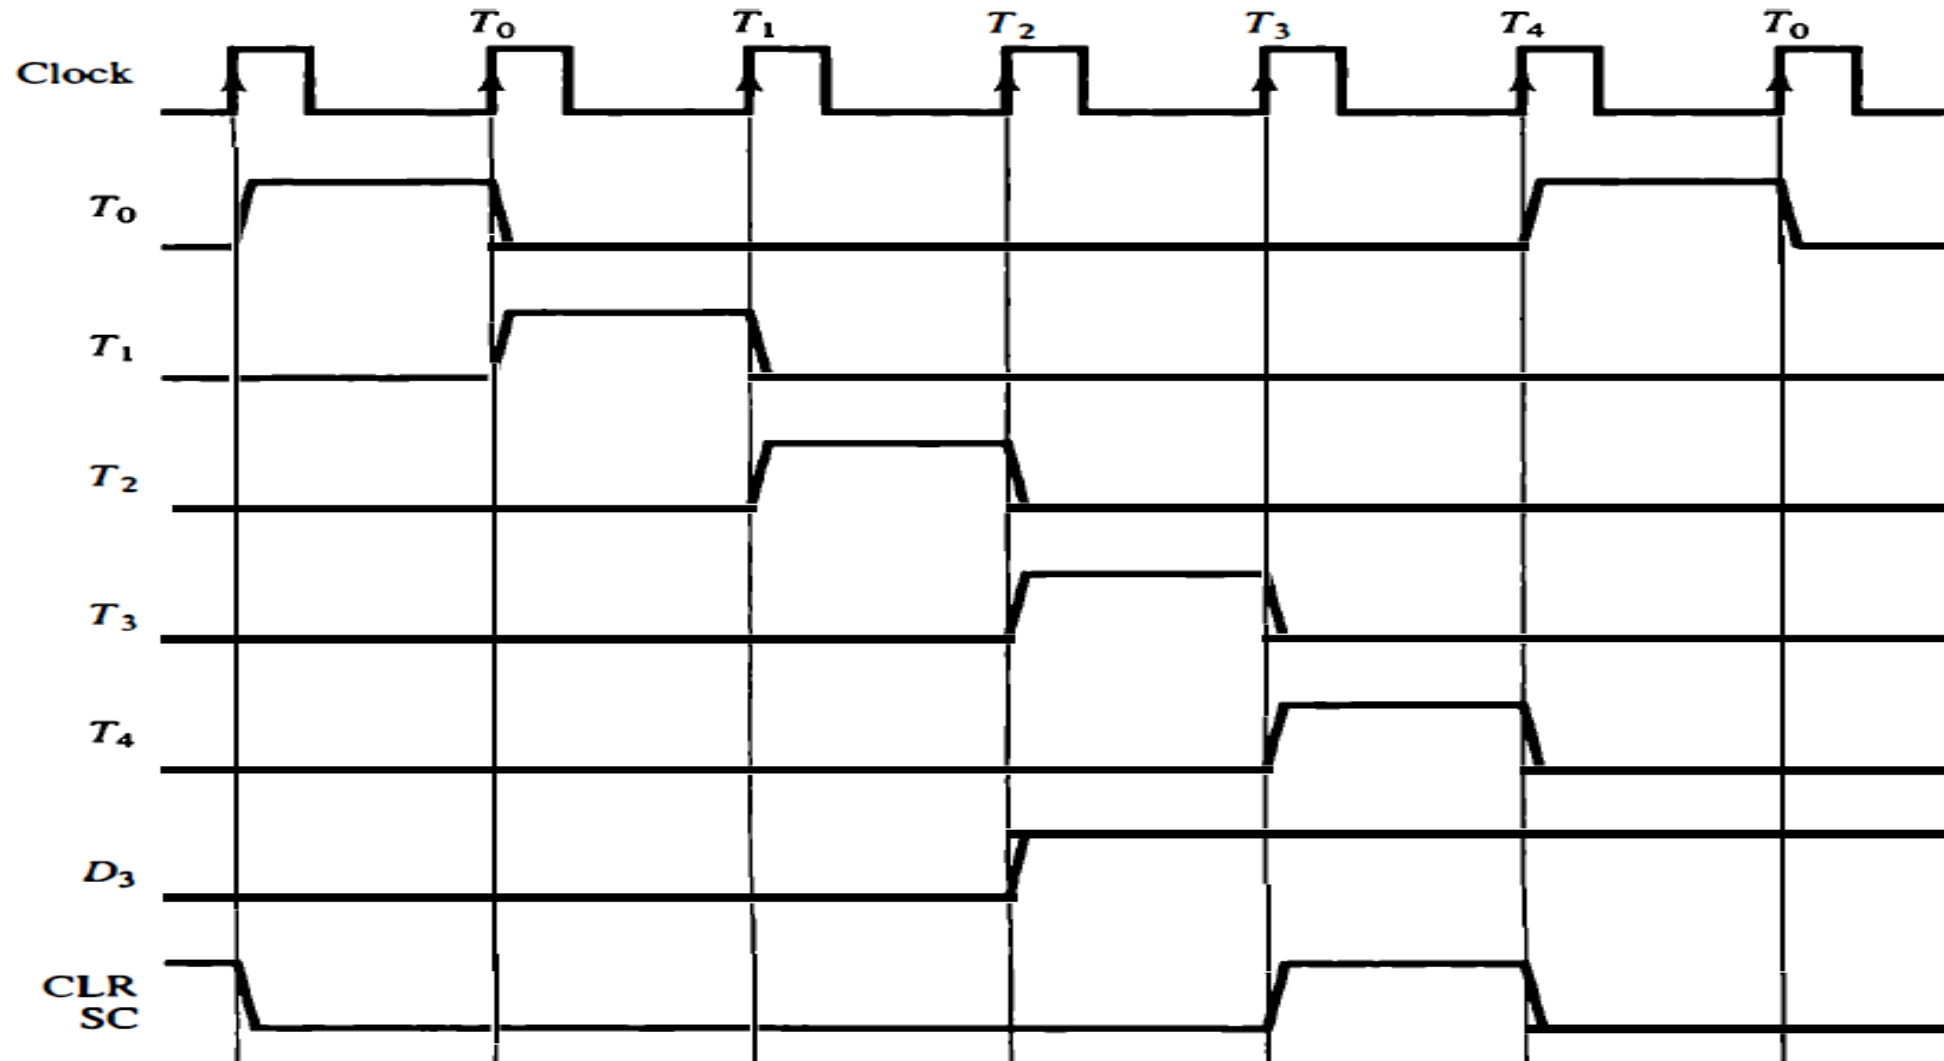

Figure 5-7 Example of control timing signals.
- ❖ The last three waveforms in Fig. 5-7 show how SC is cleared when $D3T4 = 1$.